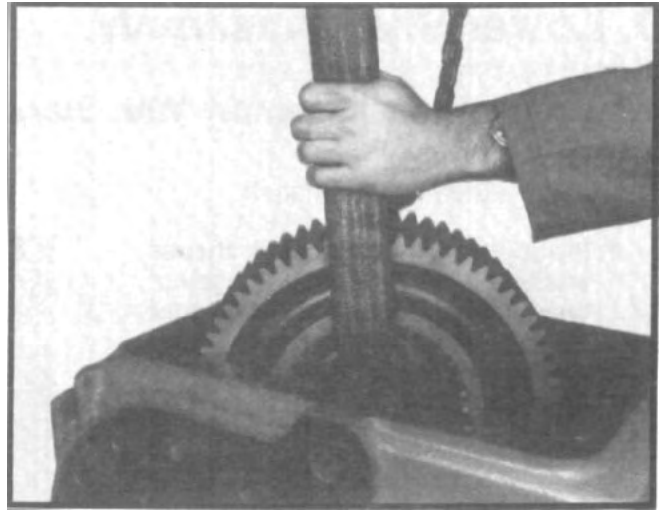

Fig. 99
- 1.5. Place underdrive gear in housing with clutch face inward. (See fig. 99)